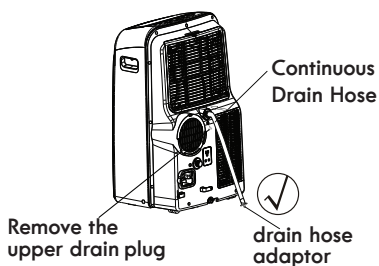

Fig.19
1. For dehumidifying mode, pull the drain plug from the upper drain hole fitting. Push the open end of the supplied drain hose securely over the fitting. Place the adaptor end of the hose directly over a floor drain so that the water will flow into the drain (See Fig.19).